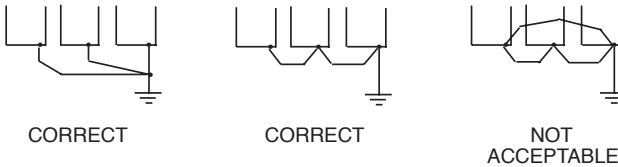

Figure 1-2. Correct Ground Connection
- Where several Drives are used, ground each directly to the ground point (see Figure 1-2). DO NOT FORM A LOOP WITH THE GROUND LEADS.